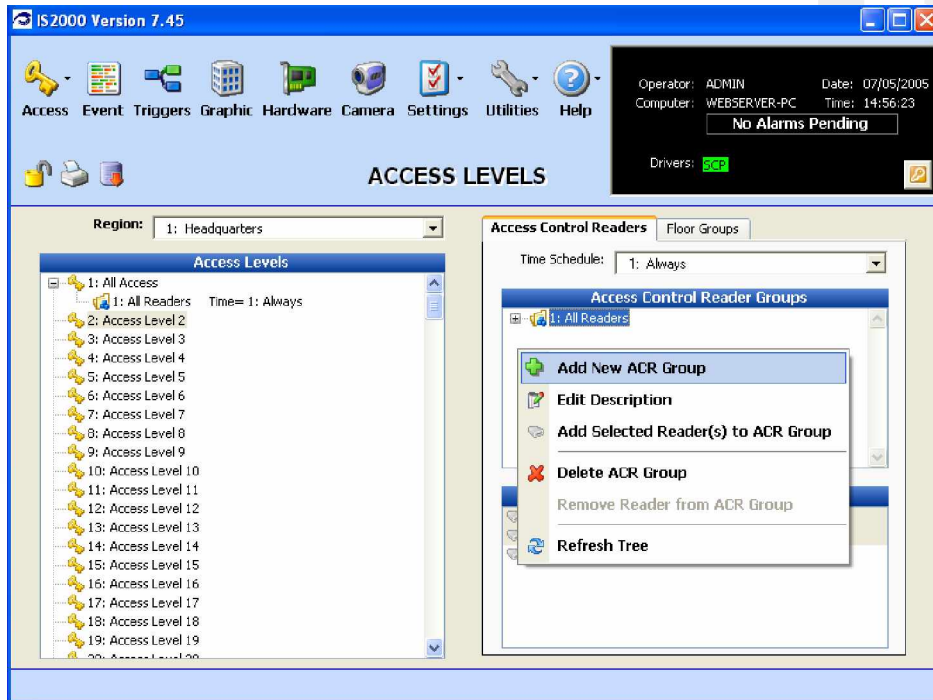

Figure 54 - Add New ACR Group
1. Right click on an open spot in the ACR Group window to display the menu shown in Figure 54.